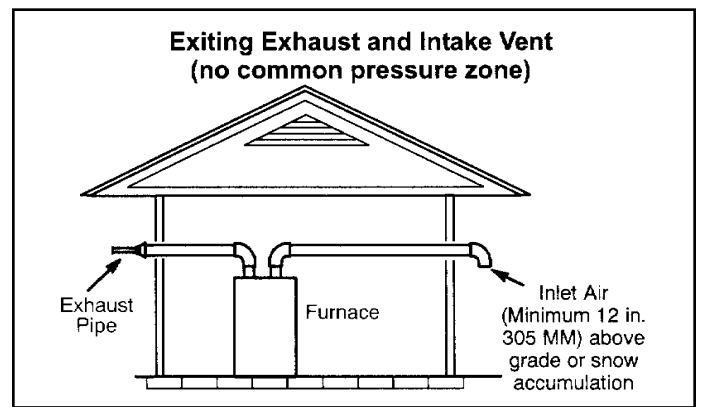
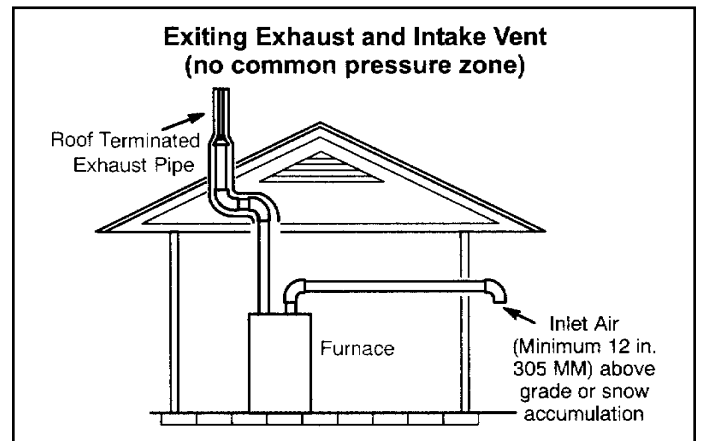

Figure 31.
Figure 32.
- Vent terminations are not required to be in the same pressure zone. You may exit the intake on one side of the structure and the exhaust on another side (Figure 31). You may exit the exhaust out the roof and the intake out the side of the structure (Figure 32).